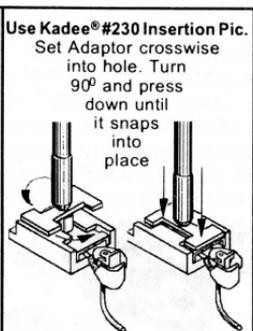

FIG.7
7. Using the Kadee® #230 Insertion Pic, set Talgo-Truck Adaptor cross-wise into the spring and Coupler holes. Turn Insertion Pic and attached Adaptor 90° and press down, snapping Adaptor into position, see Fig.7. Make sure the broad section of the